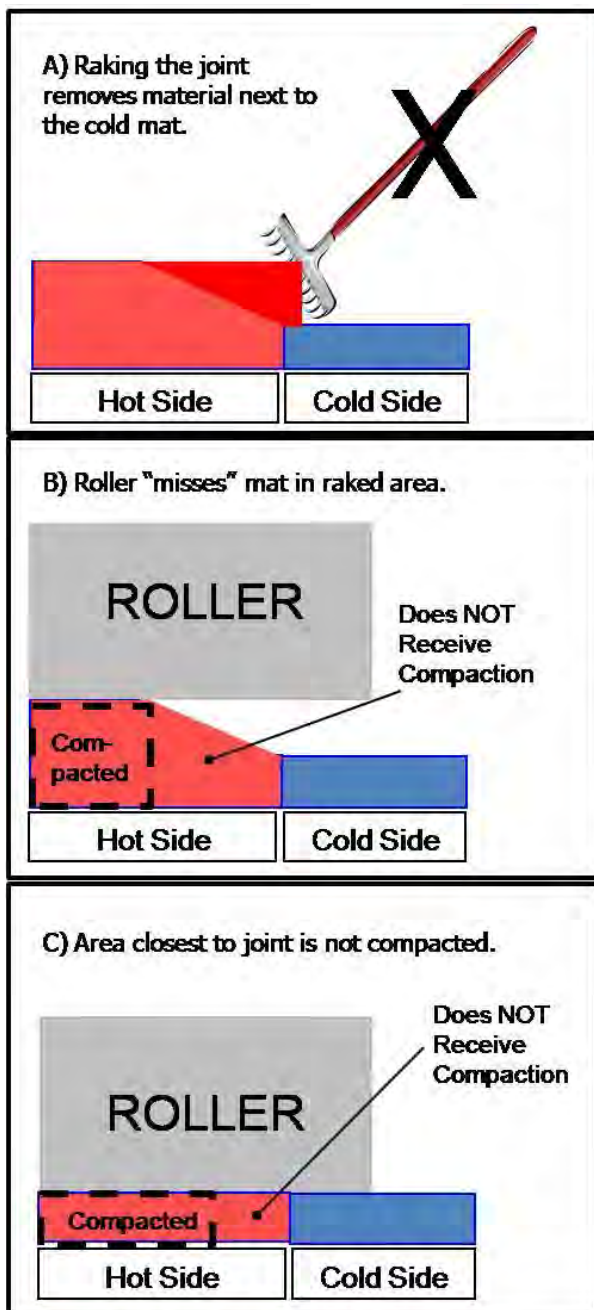

Figure 1. Pushing too much material away from the joint will result in low density at the joint as shown in Box C.
A – Raking can remove material away from the pavement edge creating a trench area that does not get adequately compacted. As shown in Figure 1 on the next page.
- An alternative compaction process is to have the 1st pass of the vibratory roller on the hot mat overlapping 4 to 6" onto the cold mat. A concern is that if an insufficient depth of HMAC is placed next to the cold mat (starving the joint), the roller will bridge over and not compact the hot material completely as shown in Figure 1.